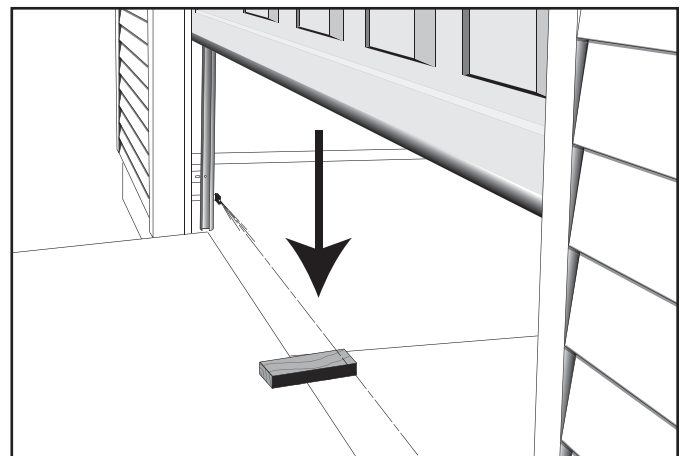

FIG. 6-6 2 x 4 under center of door opening.
- Place a 2" x 4" board (laid flat) under **center of garage door opening** (Fig. 6-6).